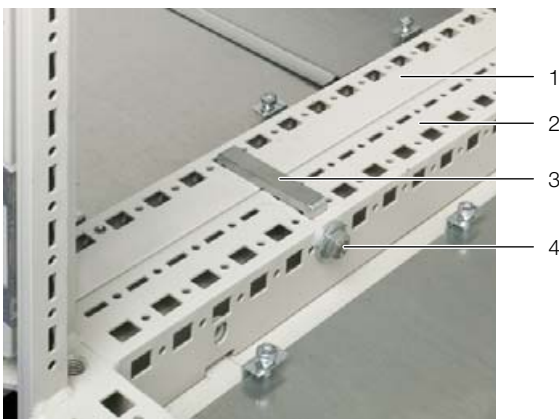

Fig. 28: Baying clamp
- In the front section, push out a baying clamp (fig. 28, item 3) from the server enclosure (fig. 28, item 2) through the corresponding notch in the side panel of the LCP Inline (fig. 28, item 1).
- From the server enclosure, tighten the baying clamp (fig. 28, item 4), so that the frames of the server enclosure and LCP Inline are firmly connected to one another.